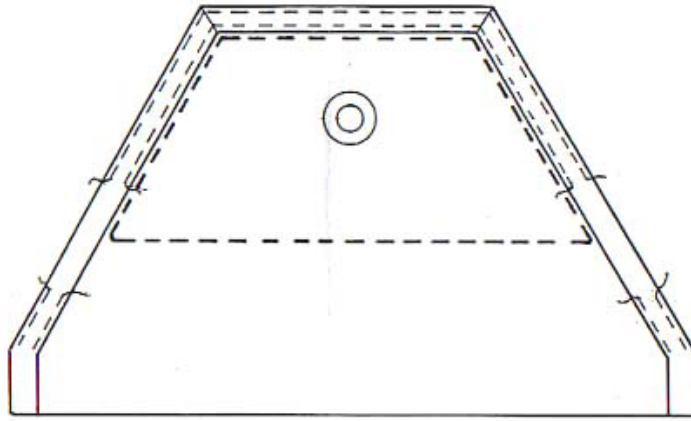

FIG. 3
- 3) Remove the stitches from a 1-3/4" (approx.) section of binding tape along each side of the main top flap. The section of removed stitches must be centered on the edge of the stiffener as shown in FIG. 3. This is done so that the ends of the reinforcing tape may be installed under the binding tape.